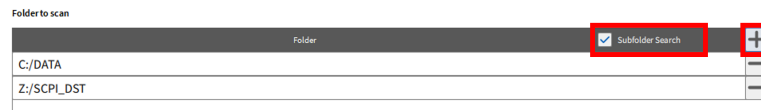

Fig. 3.17: Configure folder and optional subfolder to scan
- The “*Configure...*” button enables to specify additional folders via to scan and whether subfolders are scanned for data files (see Fig. 3.17).